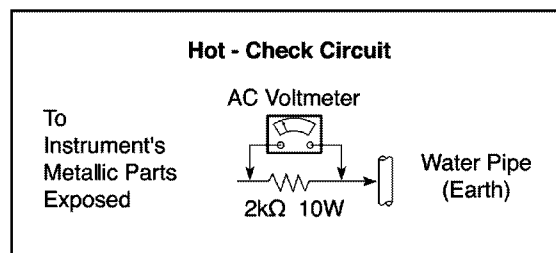

Fig. 1
1.3. Leakage Current Hot Check (Fig. 1)